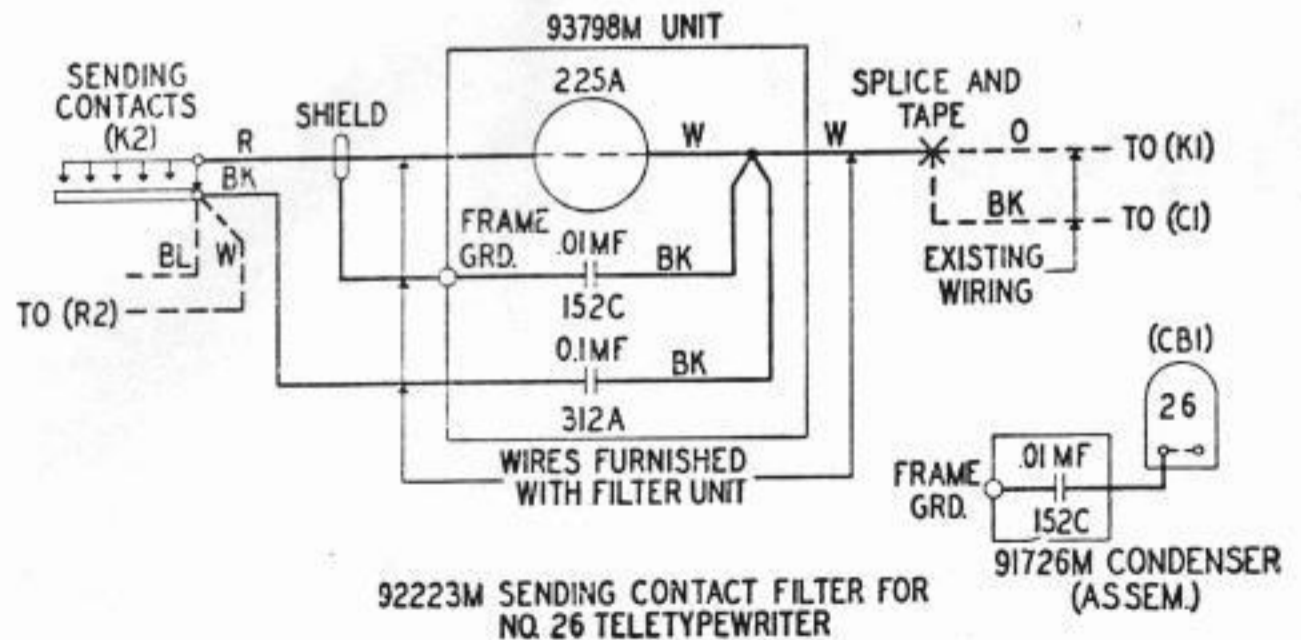

Fig. 1
(1) Mount the 93798M Filter Unit on the keyboard base using the two tapped holes which are located just in front of the forward edge of the typing unit casting. Secure the filter bracket with the two 6746M screws and 2191M lock washers furnished.
2.02 Refer to Fig. 1 and make the connections between the keyboard contacts and the filter unit proceeding as follows: